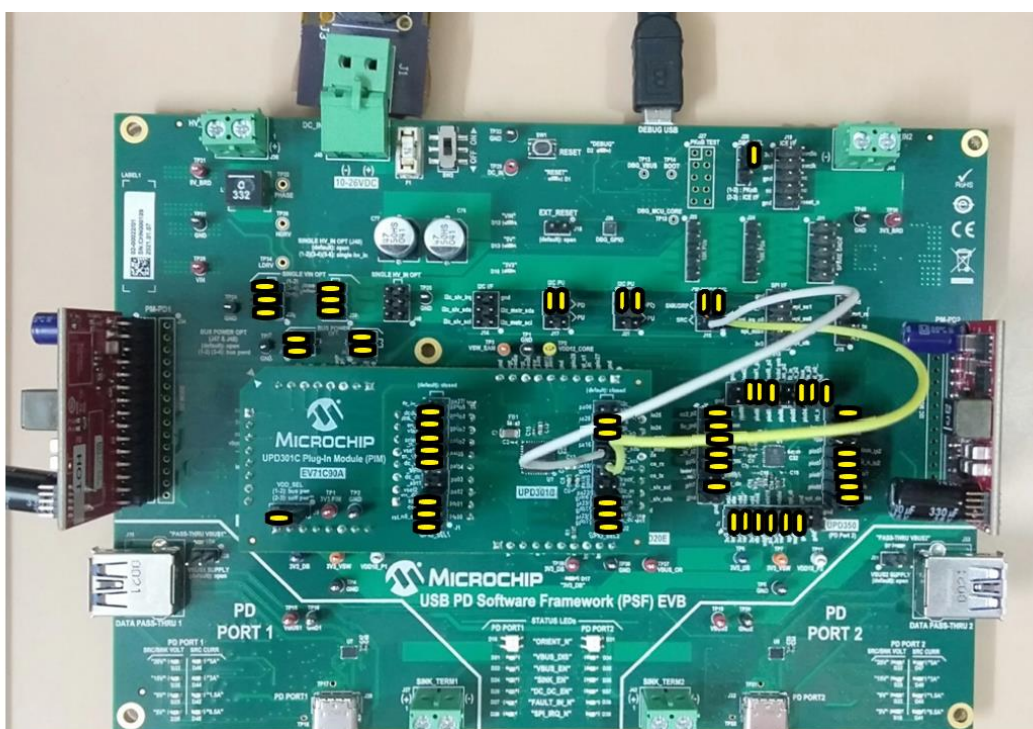

Figure 5.3 EVB-PSF with jumper connections highlighted.
3. Ensure the following jumpers are connected in EVB-PSF before proceeding to next step. . An image of EVB-PSF with all the required jumper connections highlighted is shown in Figure 5.3.
- Connect PA17 of GPIO\_SEL2 to J15.1 and PA16 of GPIO\_SEL2 to J15.2 to enable DC\_DC\_EN\_0 and DC\_DC\_EN\_1 functionality as shown in the figure 5.3.